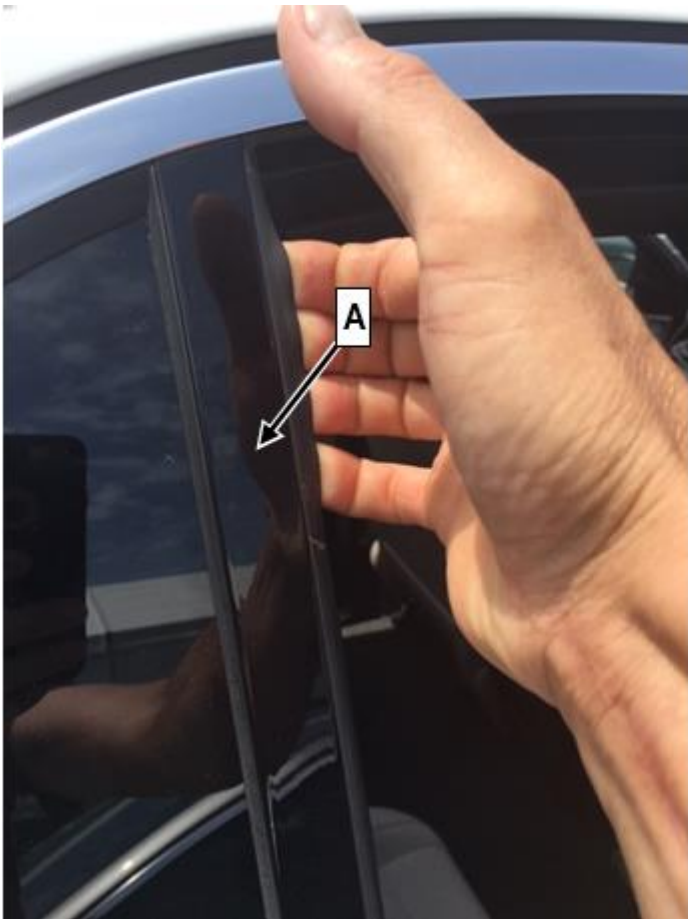
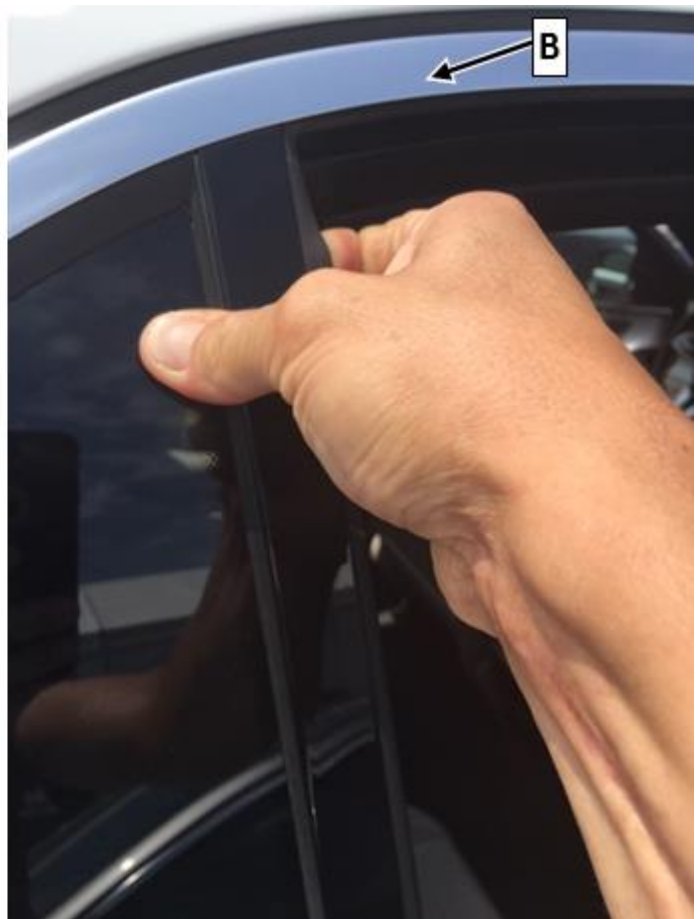

Figure 1
Figure 2
2. Check whether right and left window dividers (A, Figure 1) are seated tightly.
- i** To do so, grasp the window divider in the upper area with your hand (Figure 1) and support it with your thumb on the fixed window (see Figure 2). Then pull the window divider outward carefully (**approx. 100 N / 22.5lbs of force**) to check whether it is seated tightly.
- i** The window divider must **not** work loose.Ensure that the window divider is **not** jammed under the trim bar on the window frame (B, Figure 2). This could cause a test error with regard to the holding ability of the trim element on the window divider. A gap of 1 mm from the window divider (A) to the window frame (B) is normal.